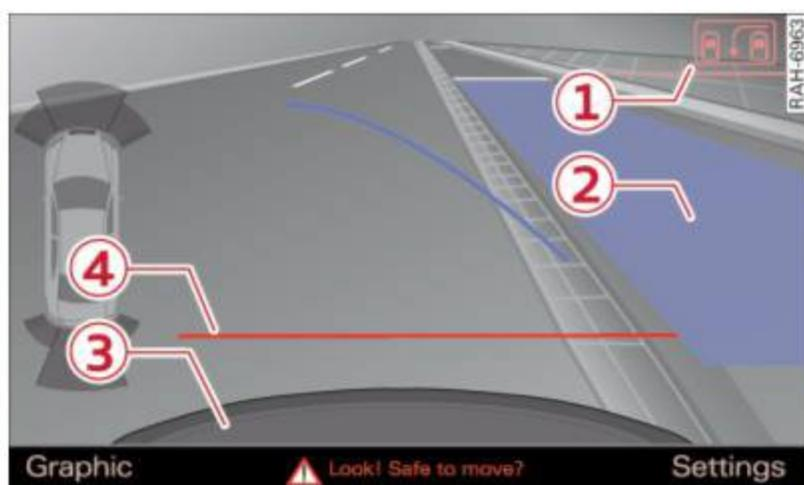

Fig. 134 MMI Display: blue surface in the parking spot
- ▶ Press the **Mode** ⇒ *fig. 134* ① control button on the MMI control console. Parking mode 2 appears.
- ▶ Back up in reverse gear and align your vehicle so that the blue area ② borders on the rear end of the vehicle or on the parking spot line. The blue area represents an extension of the vehicle's outline by approximately 16 ft (5 m) to the rear. The long side of